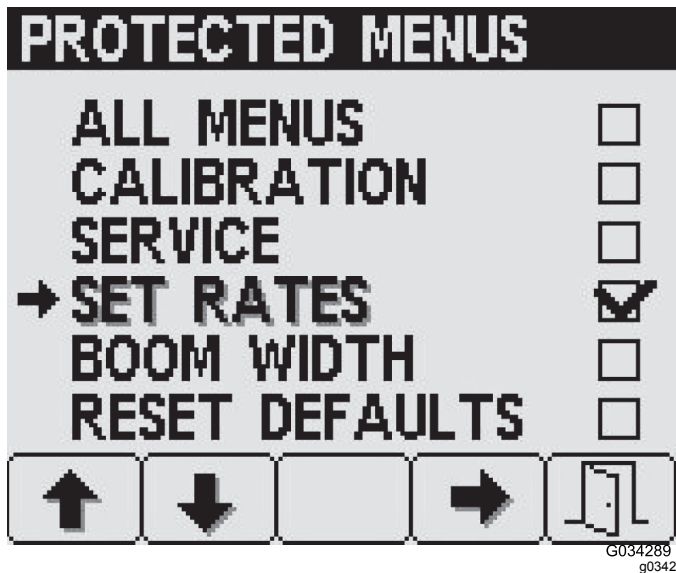

Figure 23
2. Press button 2 until you reach the desired protected menu item (Figure 23).
3. Press button 4 to select and deselect each protected menu item (Figure 23).